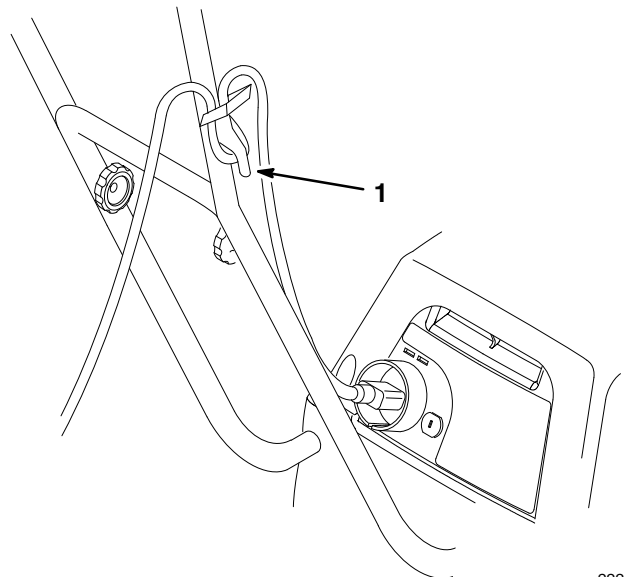

Figure 14
1. Connect extension cord to mower (Fig. 14).